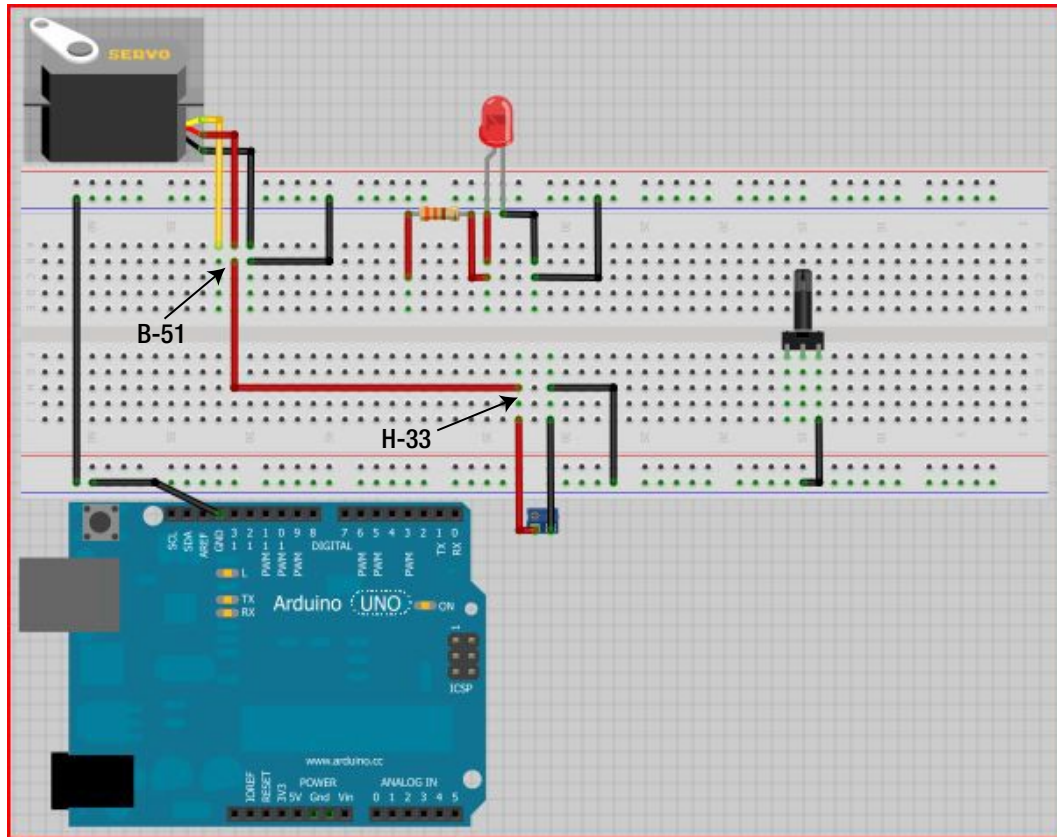

Figure 23-12. Connect power from the two-position terminal block to the servo
11. Next, connect the power side of the two-position terminal block (H-33) to the servo power (B-51). We used a red wire. Figure 23-12 illustrates this process.